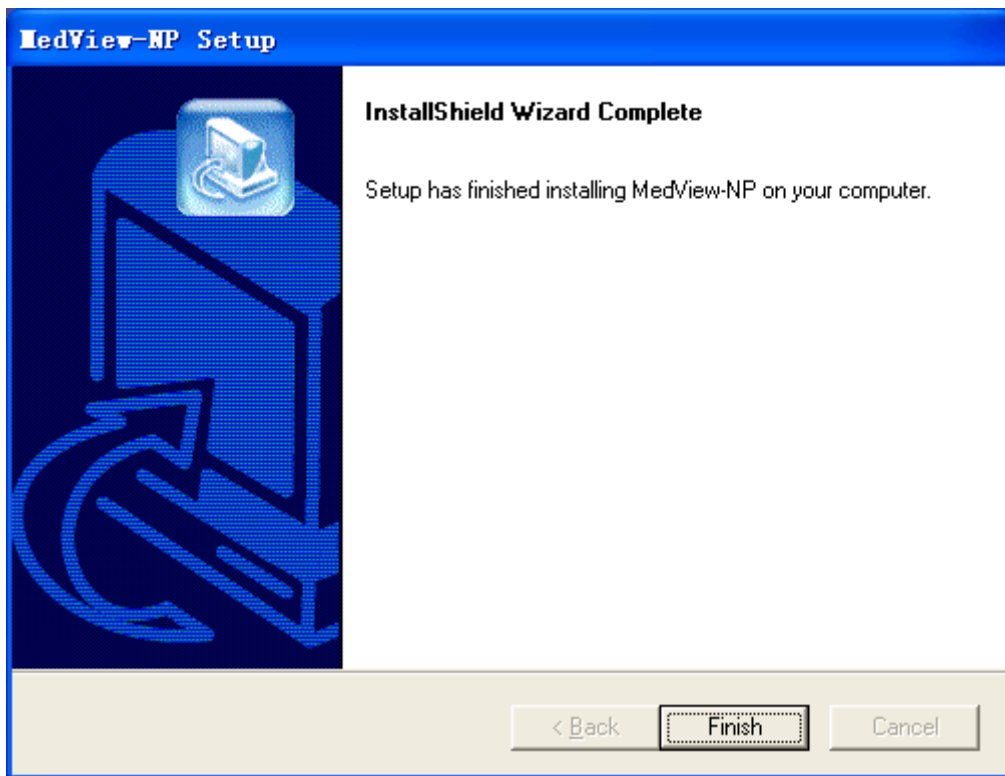

Figure 2-8 Click “Finish” button
(8) Click “Finish” button in Figure 2-8, the shortcut icon will be created on the desktop, as shown in Figure 2-9. The shortcut and Uninstall MedView-NP icons are added into “Start” menu on the left bottom of desktop, as shown in Figure 2-10.